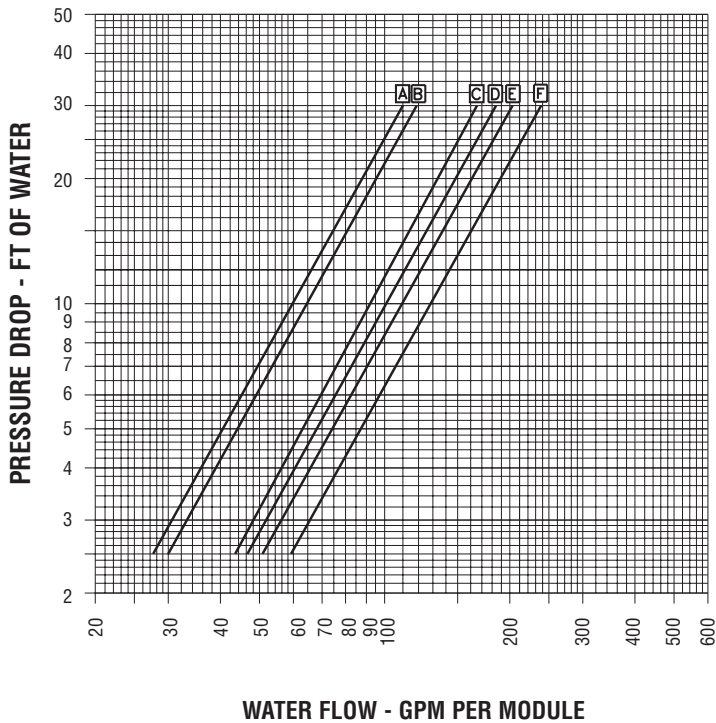

Figure 2. Water Cooled Units
Evaporator and condenser waterside pressure drops are provided in **Figure 2**. To use **Figure 2**, divide the total chilled water GPM by the number of modules in the chiller.
6. With a 6 module chiller, evaporator and condenser pressure drops are read from **Figure 2** as follows:
6. Condenser pressure drops are read from **Figure 2** as follows: